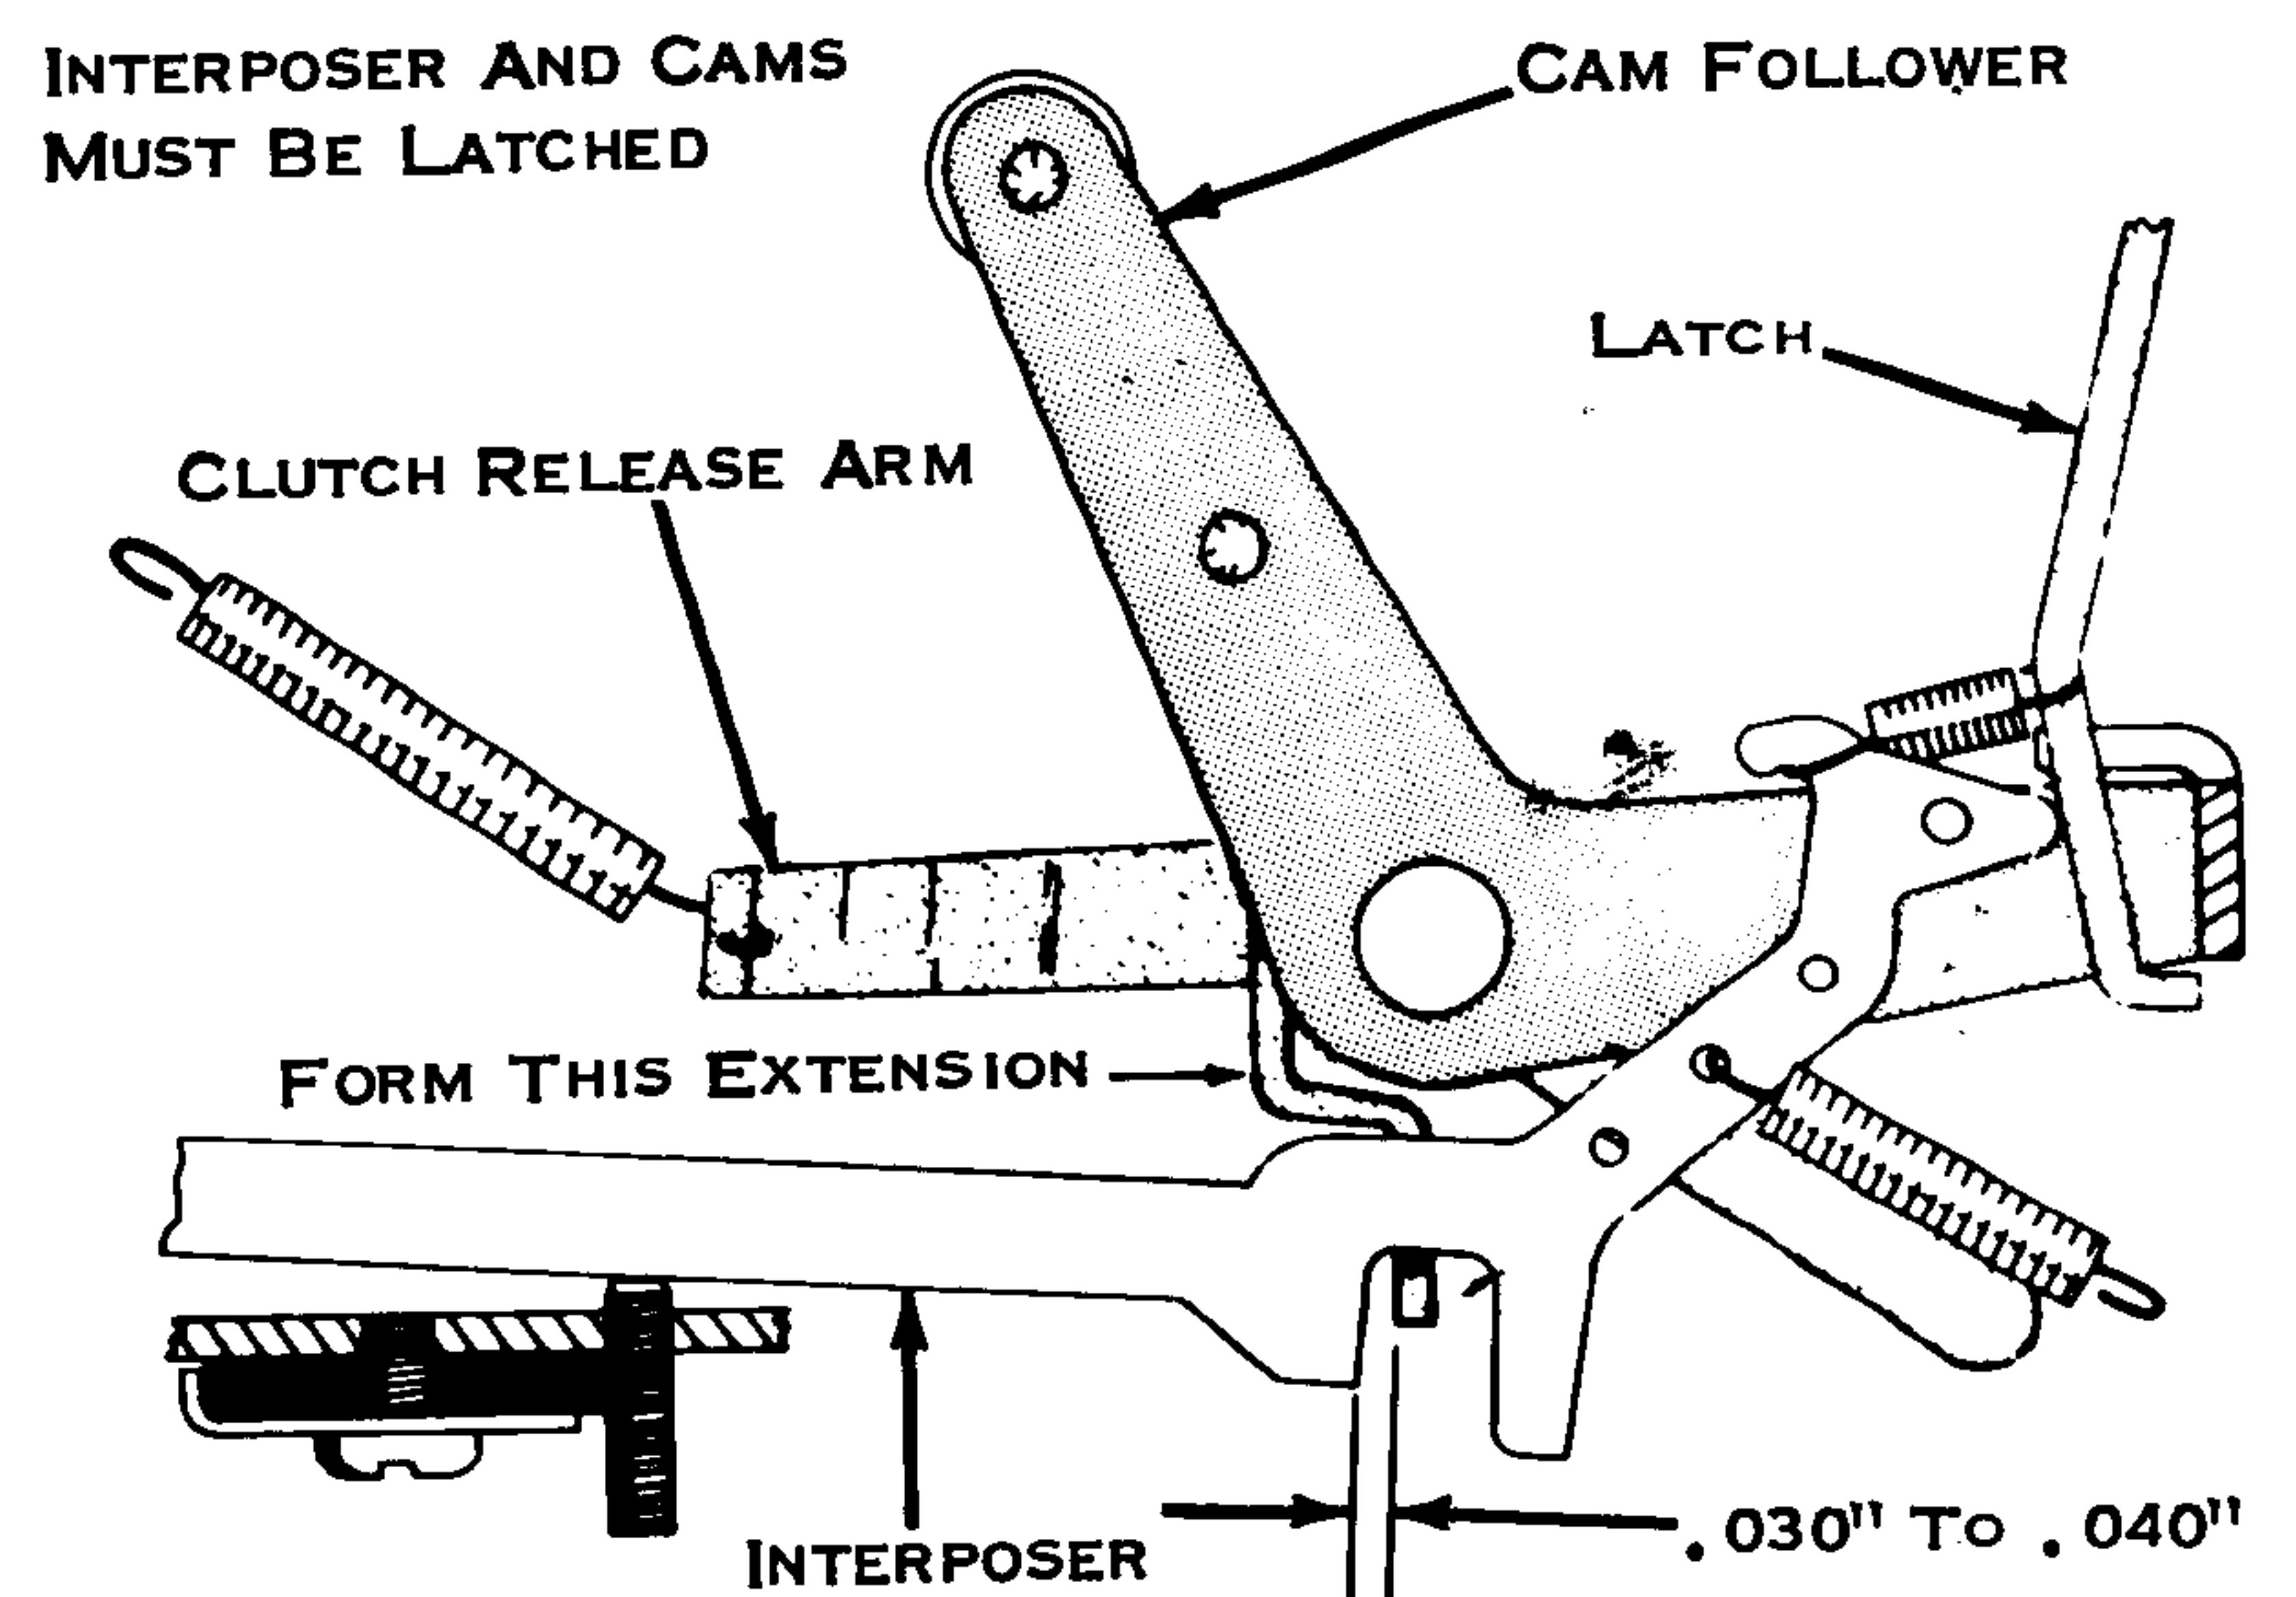

Figure 125. Clutch Release Arm
7. Clutch Release Arm (Fig. 125) - The lug at the bottom of each clutch release arm should be formed so that it clears the interposer lug by .030" to .035" on Carrier Return, Index and .035" to .045" on Tab, Backspace, and Spacebar.